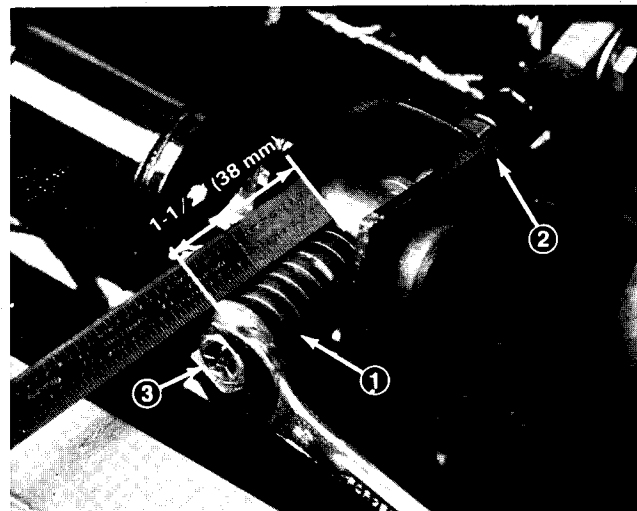
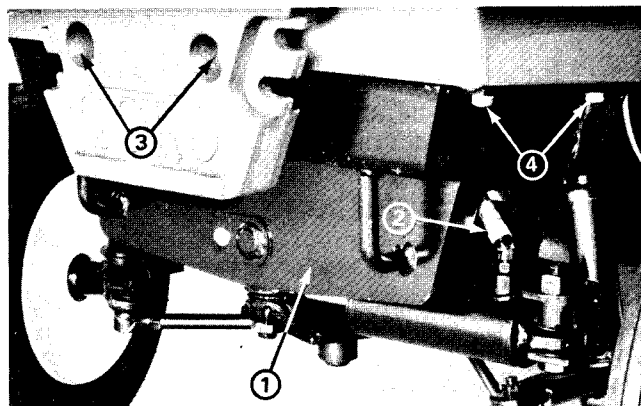

Figure 4
Figure 6
Check the PTO belt condition (wear, deterioration, fraying of material, glazing) and tension at 50 hour intervals. Replace the belt as needed. The belt has proper tension when the tensioning spring is 1-1/2 in. (38 mm) long (Fig. 4) (See Belt Adjustment in the Adjustments section of this chapter.)
2. Loosen the tension rod jam nut (Fig. 4).
A. Disconnect the two hydraulic hoses from the fittings on the steering cylinder (Fig. 6). Put caps on the hoses and fittings to prevent contamination.
B. Remove the two (2) cap screws and nuts at the rear of the chassis. Remove the counter weight (if equipped).
D. Remove the four (4) cap screws securing the rear frame to the chassis. Carefully move the rear frame and axle assembly out from under the machine.
3. With the PTO belt installed and the rear PTO bearing flanges finger tight, tighten the belt tension screw until the compression spring begins to compress (Fig. 4).